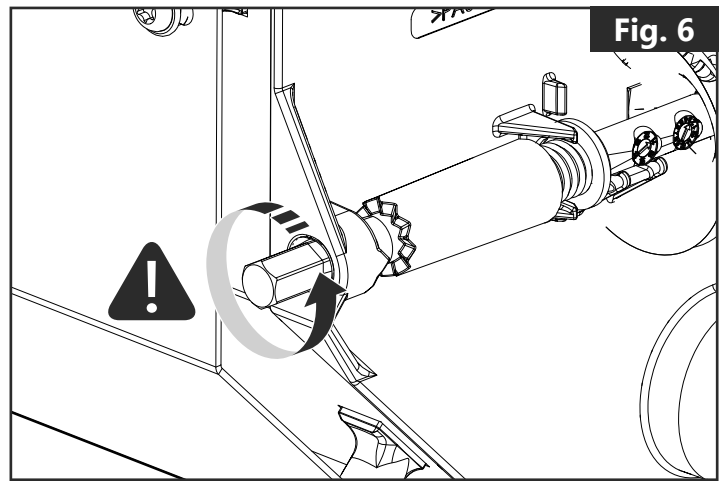

Fig. 6
- Do not disassemble the main shaft from the canister without relieving the spring tension completely (See "Spring adjustment"). **(Fig. 6)**